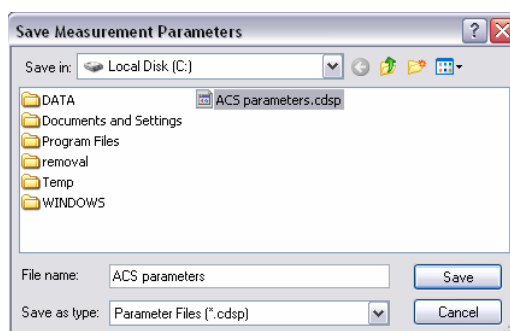
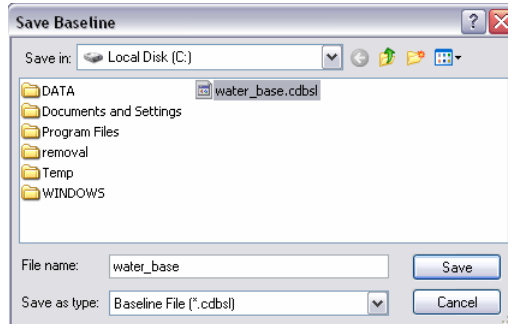

Figure. 4.7 [Save parameters] dialog box
Figure. 4.8 [Save baseline] dialog box
- (2) Select a location to save the spectrum by clicking the arrow on the extreme right in the [Save in] box (in Fig. 4.7, “Local Disk (C)” is selected).
- (3) Input a filename in the [File Name] text box. The extension (after “.”) need not be entered. The output file is saved as a .cdsp format file.
- (4) Click the <Save> button, and the spectrum is saved to disk (the file name in Fig. 4.7 is “ACS parameters”)
- (3) Input a filename into the [File Name] text box. The extension (after ".") need not be entered. The output file is saved as a .cdbsl format file.
- (4) Click the <Save> button, and the spectrum is saved to disk (the file name of Fig. 4.8 is “water\_base”).
- (2) Select a location to save the spectrum clicking the arrow at extreme right in the [Save in] box (in Fig. 4.7, “Local Disk (C)” is selected).
- (3) Input a filename in the [File Name] text box. The extension (after ".") need not be entered. The output file is saved as a .jws format file.
- (4) Clicking the <OK> button saves the spectrum to disk (the filename of Fig. 4.7 is “0.06%d-ACS\_I”).
- (5) In the case when, for example, “Cycle Times” is set to three, three sets of data are saved as xxx\_01.jws, xxx\_02.jws, and xxx\_03.jws.